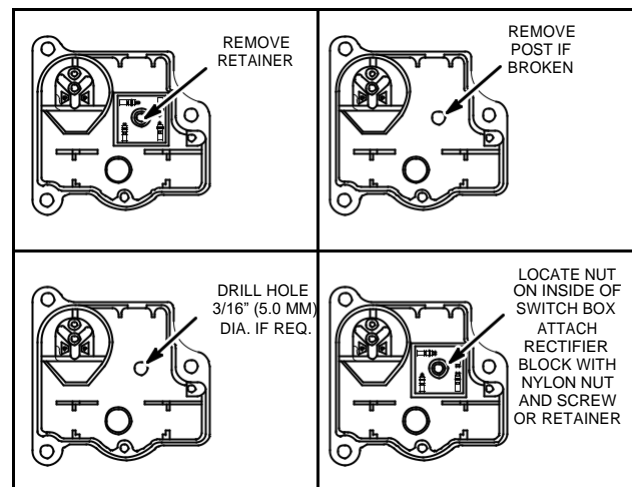

Fig. 707 – REPLACING RECTIFIER
8. Attach rectifier with plastic screw and nut. Assemble as shown in Fig. 707.